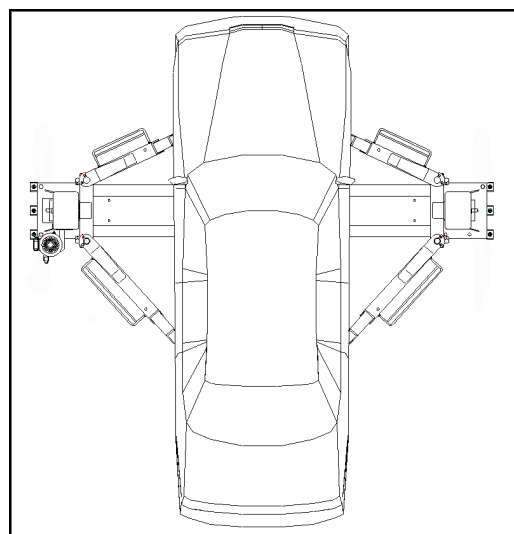

Fig. 10 Correctly Loaded Vehicle
It is important to position the vehicle on the lift so that the weight is correctly distributed on the arms. **(Fig. 10)** For person and equipment safety, it is important that:
- ◆ The vehicle is correctly positioned. **(Fig. 10)**